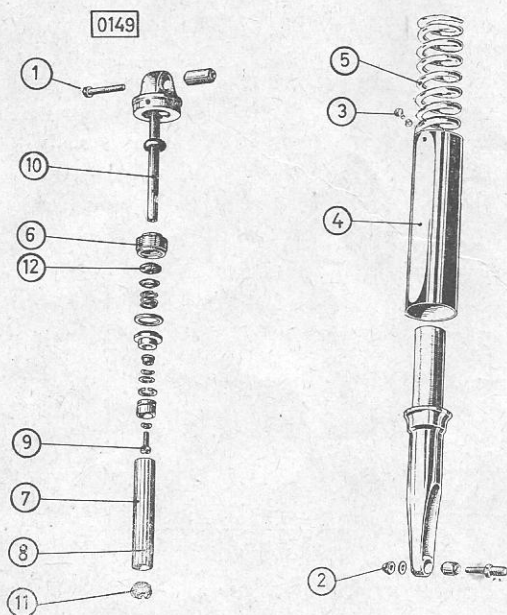

Fig. 22: Rear wheel springing:
1. Unscrew top fastening screws (fig. 22/1) and
2. Unscrew bottom cap nuts (fig. 22/2) and take off suspension units.
1. Take off the two lens head screws (fig. 22/3) and remove the facing tubes (fig. 22/4).
2. Through the pressure spring (fig. 22/5) coils put spanner (opening 22 mm) on to the sealing screw (fig. 22/6) and unscrew it.
Now the dashpot is freely accessible (fig. 22/7) and the dashpot oil may be drained. Then fill in the correct quantity of dashpot oil (65 c.c. for each suspension unit). Reassembling is done in an order reverse to that observed for disassembling. When mounting the dashpot, take care that the end with the small cross hole is the bottom end (fig. 22/8).
4. Unscrew the screw (fig. 22/9) and remove all parts from top suspension unit head (fig. 22/10).
5. Knock out bottom valve (fig. 22/11) from dashpot.
Before reassembling check parts; renew rubber washers and gaskets. When mounting the dashpot, take care that the end with the small cross hole is the bottom end (fig. 22/8). The sealing washer (fig. 22/12) must be mounted so that the inscription points upwards.
3. Take out suspension units (fig. 22 and 23/1).